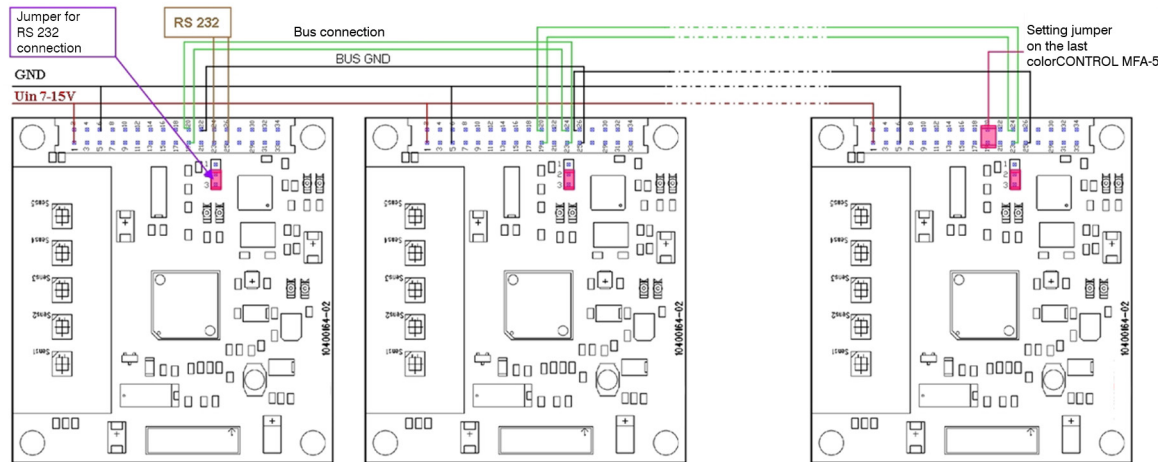

Fig. 13 Synchronisation via RS 232
**i** When using an external power supply, the jumper on BR1 must connect pin 2 with pin 3, see Fig. 13.
The colorCONTROL MFA-5-P can connect maximum 99 boards and can use this to test 495 LEDs, see Fig. 13.